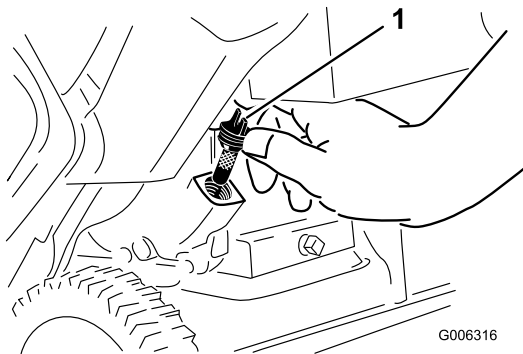

Figure 21
6. Clean around the oil-fill cap (Figure 21).
7. Unscrew the oil-fill cap and remove it (Figure 21).